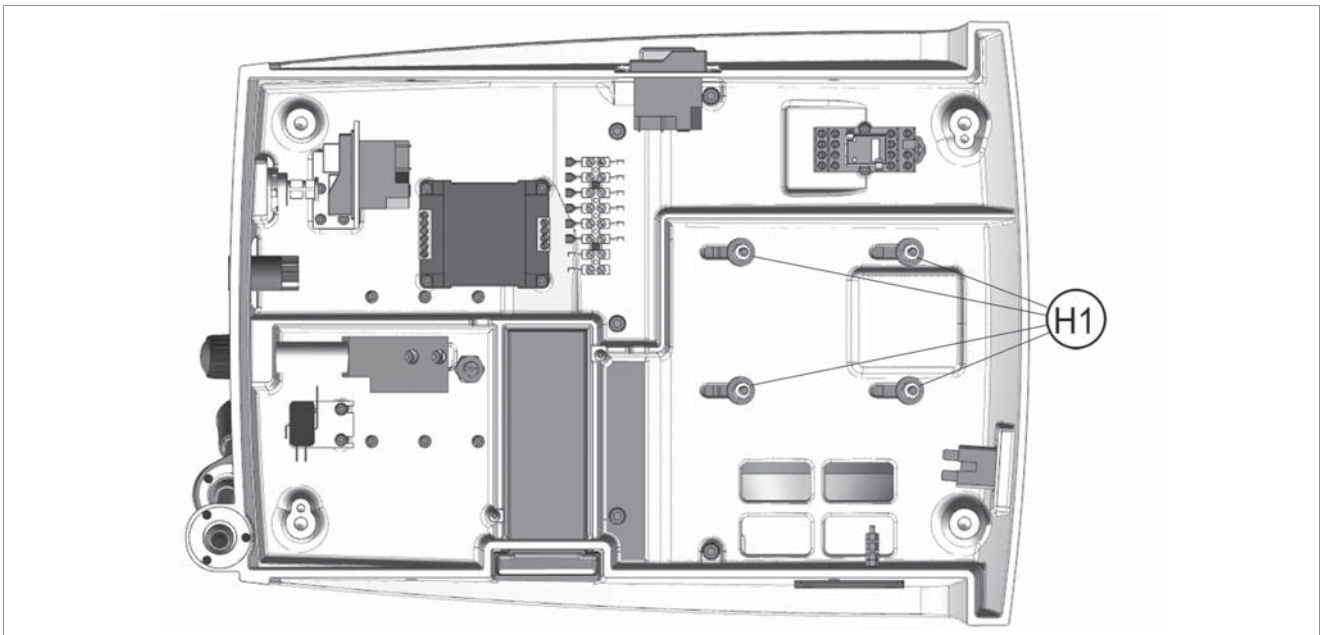

Fig.80
- 4) Loosen the 4 nuts (H1) (Fig.80), push the motor towards the back of the machine and then tighten the 4 nuts (H1).
- 9) Loosen and remove the 4 nuts (H1) fixing the motor (Fig.80). **TAKE CARE not to drop the motor.**